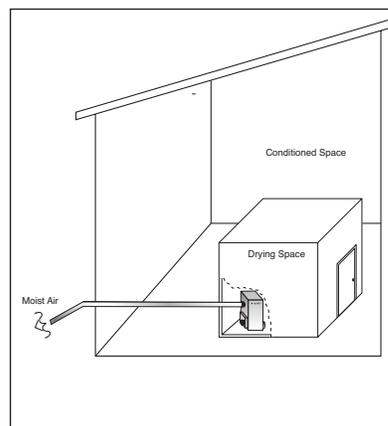

Figure 2.2
a. Inside Drying Space with Single Reactivation Outlet Duct (Simplest Hookup) Fig. 2.2